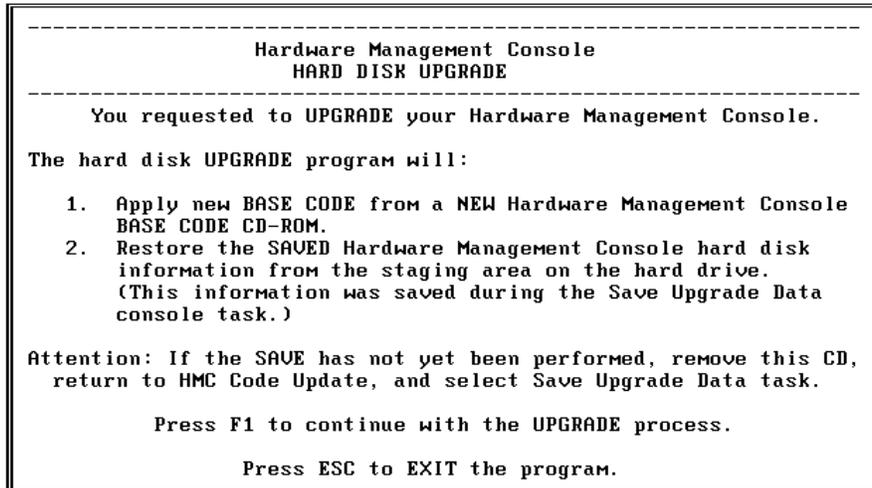

Figure 14-16 HMC Recovery cd set upgrade confirmation
5. A second HMC Hard Disk Upgrade screen is displayed (Figure 14-16). This screen explains the upgrade process and states that the Save Upgrade Data task must have been performed before continuing.